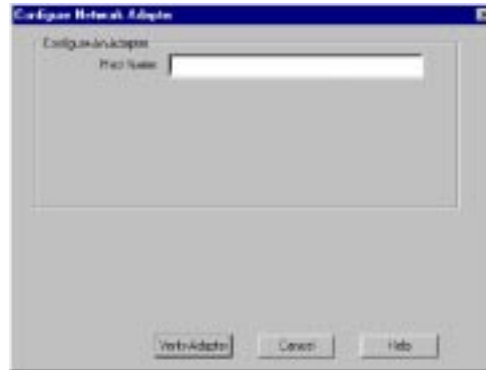

Figure 15. Configure Network Adapter Dialog Box
2. In the Configure Network Adapter dialog box, enter the host name or IP address of the adapter (see Figure 15).